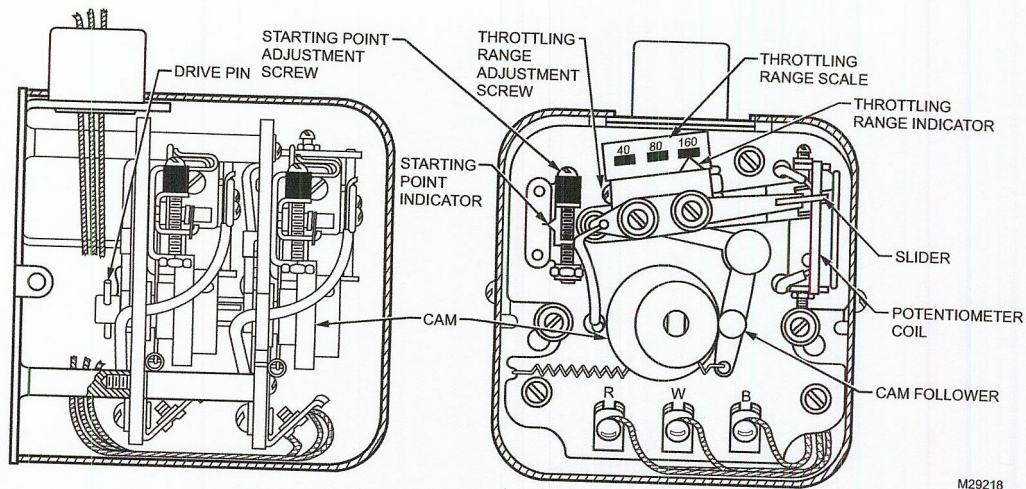

Fig. 5. Internal view of a two potentiometer Q181.
- Make certain that the cam follower is on the low side of the cam, as shown in Fig. 5. Fit the drive pin coupling over the drive pin and put the Q181A in place on the master motor. The drive pin shaft should engage the shaft coupling.
The point in the rotation of the master motor at which the auxiliary motor starts its travel in one direction or completes its travel on the return stroke. The starting point is determined by the starting point adjustment screw (see Fig. 5) and is adjustable between 0 and 120 degrees.
The rotation on the master motor required to drive the Q181A potentiometer through its full travel, which in turn drives the auxiliary motor through its full travel. The throttling range is determined by the throttling range adjustment screw (see Fig. 5) and is adjustable from 40 to 160 degrees of the master motor rotation.
- a. Turn the throttling range adjustment screw (Fig. 5) slightly clockwise . The indicator should move slightly to the left on the scale. This shortens the throttling range so that the auxiliary motor will open fully.
1. Turn the throttling range adjustment screw (Fig. 5) until the indicator is positioned properly on the scale.